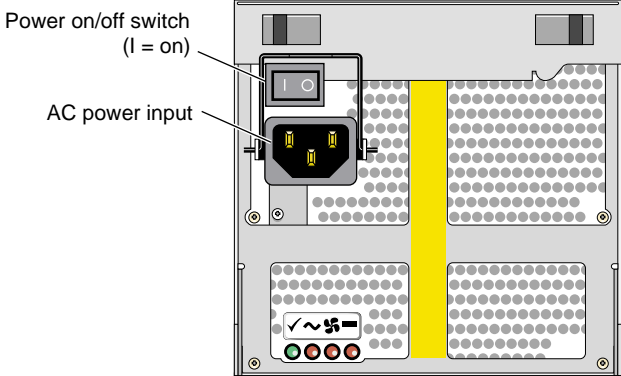

Figure 1-2 D-brick2 PSU/cooling Module Power Switch
- 3. If you plan to power on a D-brick2, or an entire server that includes a D-brick2, make sure that the power switch on the rear of each PSU/cooling module (two per D-brick2) is in the 1 (on) position. The location of the power switch on the D-brick2 PSU/cooling module is shown in Figure 1-2.